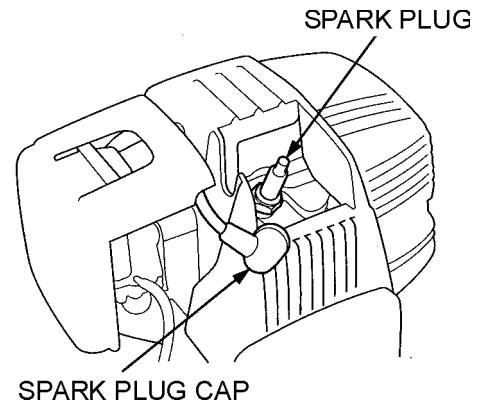

Figure 19. Spark Plug Removal
2. Disconnect the spark plug cap (Figure 19), and remove any dirt from around the spark plug area.